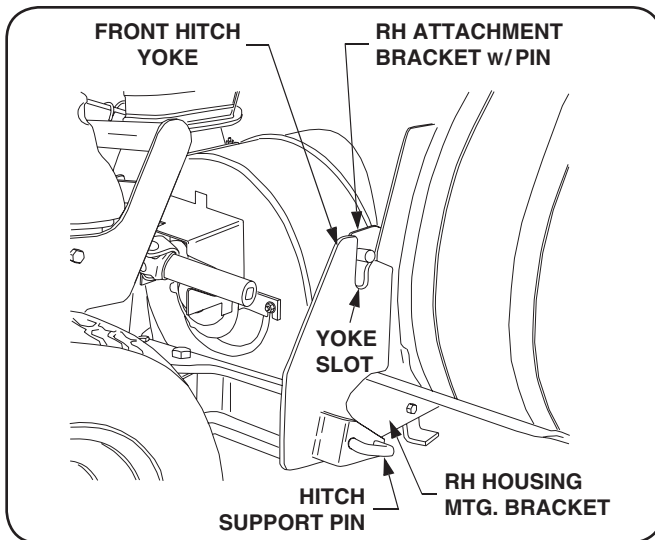

Figure 4-7
- Lower the front hitch yoke to clear the bottom of the attachment bracket pins and carefully drive the tractor forward to align the bracket pins with the slots in the hitch yoke (See Figure 4-7).
- Using the tractor hydraulic system to raise the front hitch yoke, slowly lift the snow thrower until the hitch support pins snap into the holes of the LH and RH housing mounting brackets (See Figure 4-7).
8. Stop the tractor engine and engage the parking brake. Check that support pins are fully engaged in the housing mounting brackets holes (See Figure 4-7).
4. Using the tractor hydraulic system, lower the front hitch yoke to disengage the snow thrower attachment bracket pins from the slots of the hitch yoke (Refer to Figure 4-7).